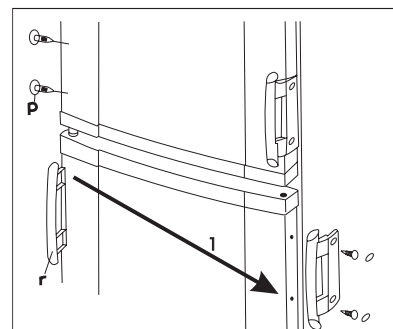

fig. 4.
- Put over the handles (r) on the other side and put the plastic blanking pins (p) supplied in the plastic bag of this instruction book into the holes set free. (fig.4)